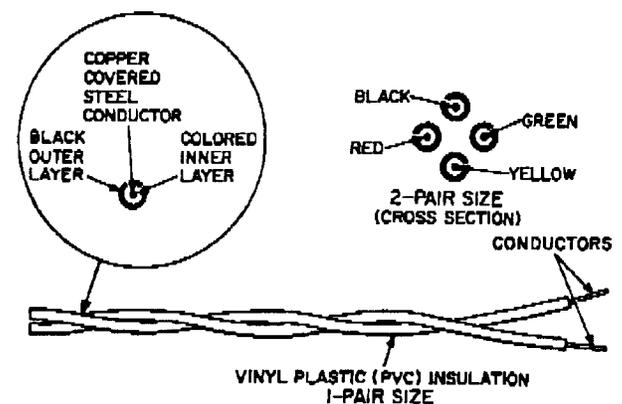

Fig. 2—E Block Wire
2.02 *E block wire* is furnished in 1-pair and 2-pair sizes (Fig. 2). It consists of 0.027-inch annealed copper covered steel conductors individually dual insulated with a distinctively colored inner layer and a black outer layer of vinyl plastic compound. Conductor and pair identification are provided by the colored inner layer (see Table A). The 1-pair size is furnished as a twisted pair and the 2-pair size in a spiral four conductor construction.